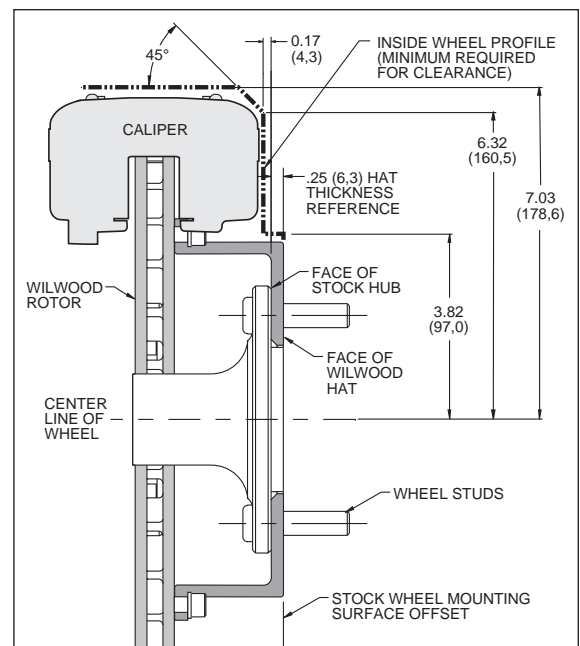

Figure 4. Wheel Clearance Diagram
Before any tear-down or disassembly begins, review the wheel clearance diagram (Figure 4, page 3) to verify that there is adequate clearance with the wheels you will be using with this installation.
- Verify your wheel clearance using Figure 4.